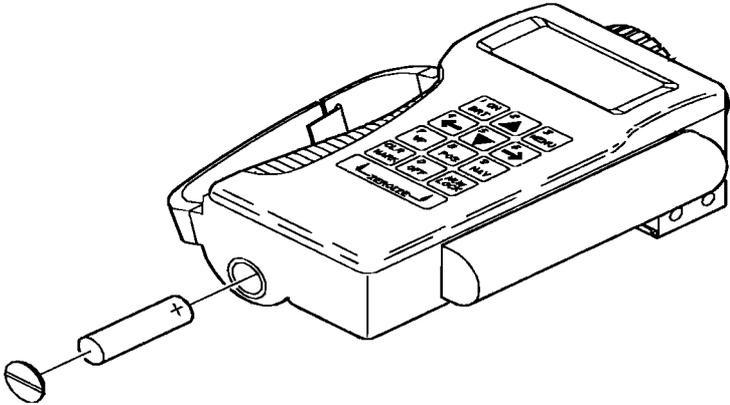

Figure 8-3 Replace Memory Battery.
- a. Remove the memory battery cover (bottom of the unit) by turning it out with a flat-tip screwdriver. Tilt the unit upside down and the memory battery easily slides out into your hand (refer to Figure 8-3).